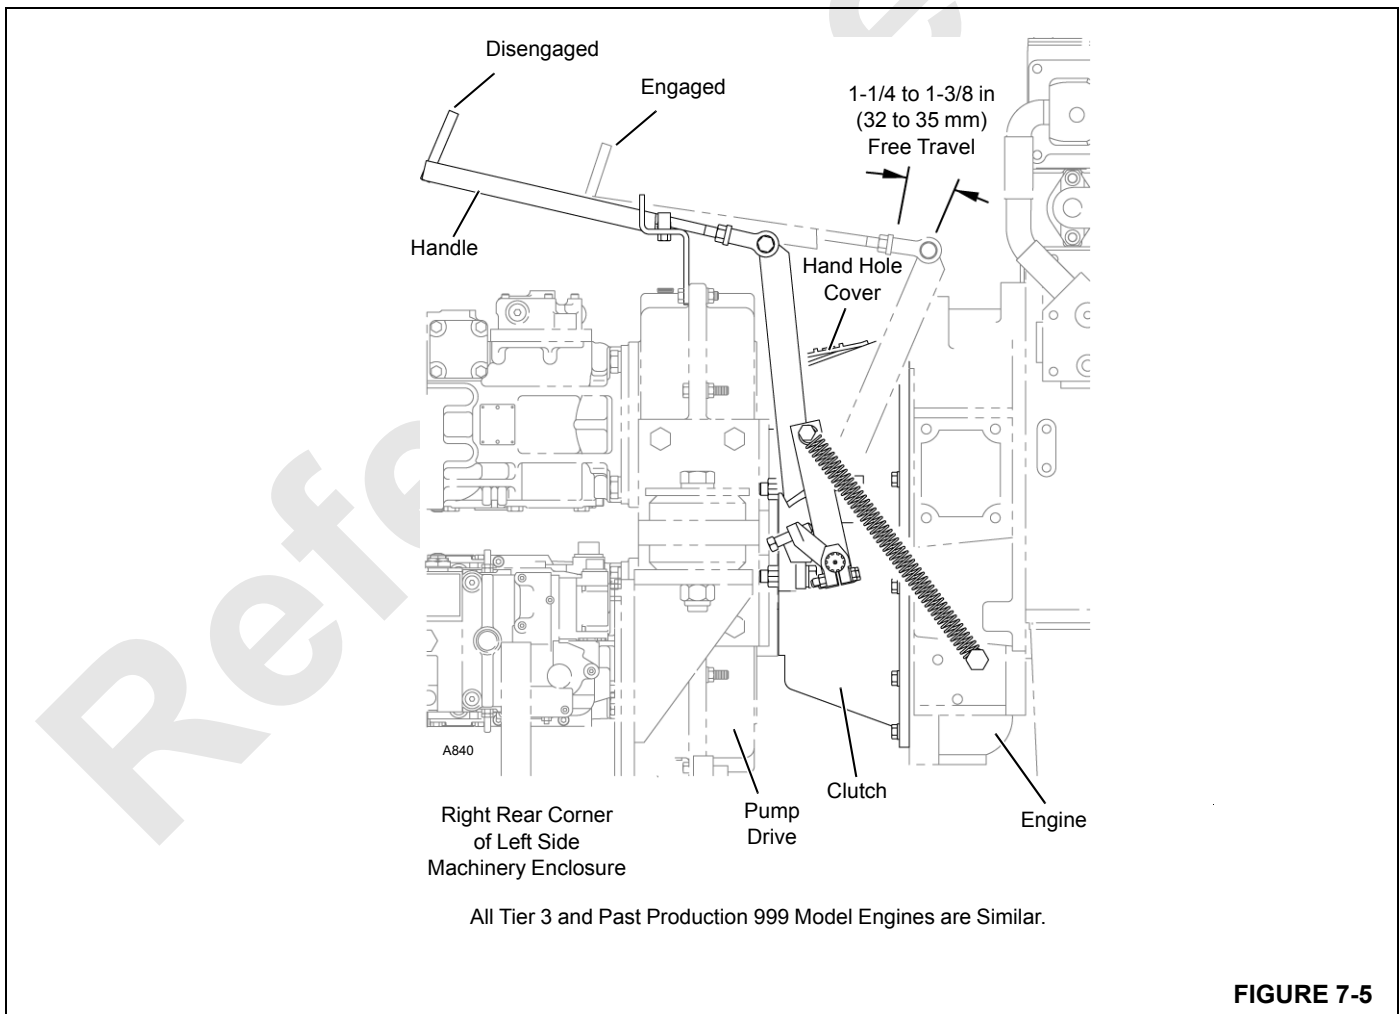

FIGURE 7-5
A disc-type manually operated clutch (see Figure 7-5) is mounted between the engine and the pump drive on this crane. The clutch allows the pump drive to be disconnected from the engine, thereby reducing engine load and making start-up easier in cold weather. The clutch can be engaged or disengaged while the engine is running or off.
3. When disengaging the clutch, check free travel. Free travel should be 1-1/4 to 1-3/8 in (32 – 35 mm) as shown in Figure 7-5. Readjust the clutch when free travel decreases to 3/4 in (19 mm).